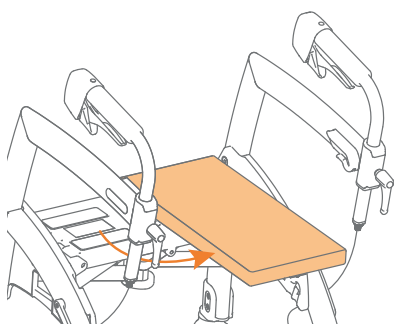

Figure 17: Place the seat cushion crosswise.
- Pull the seat cushion away, turn it 90 degrees and place it horizontally on the side of the red handle (**Figure 17**).